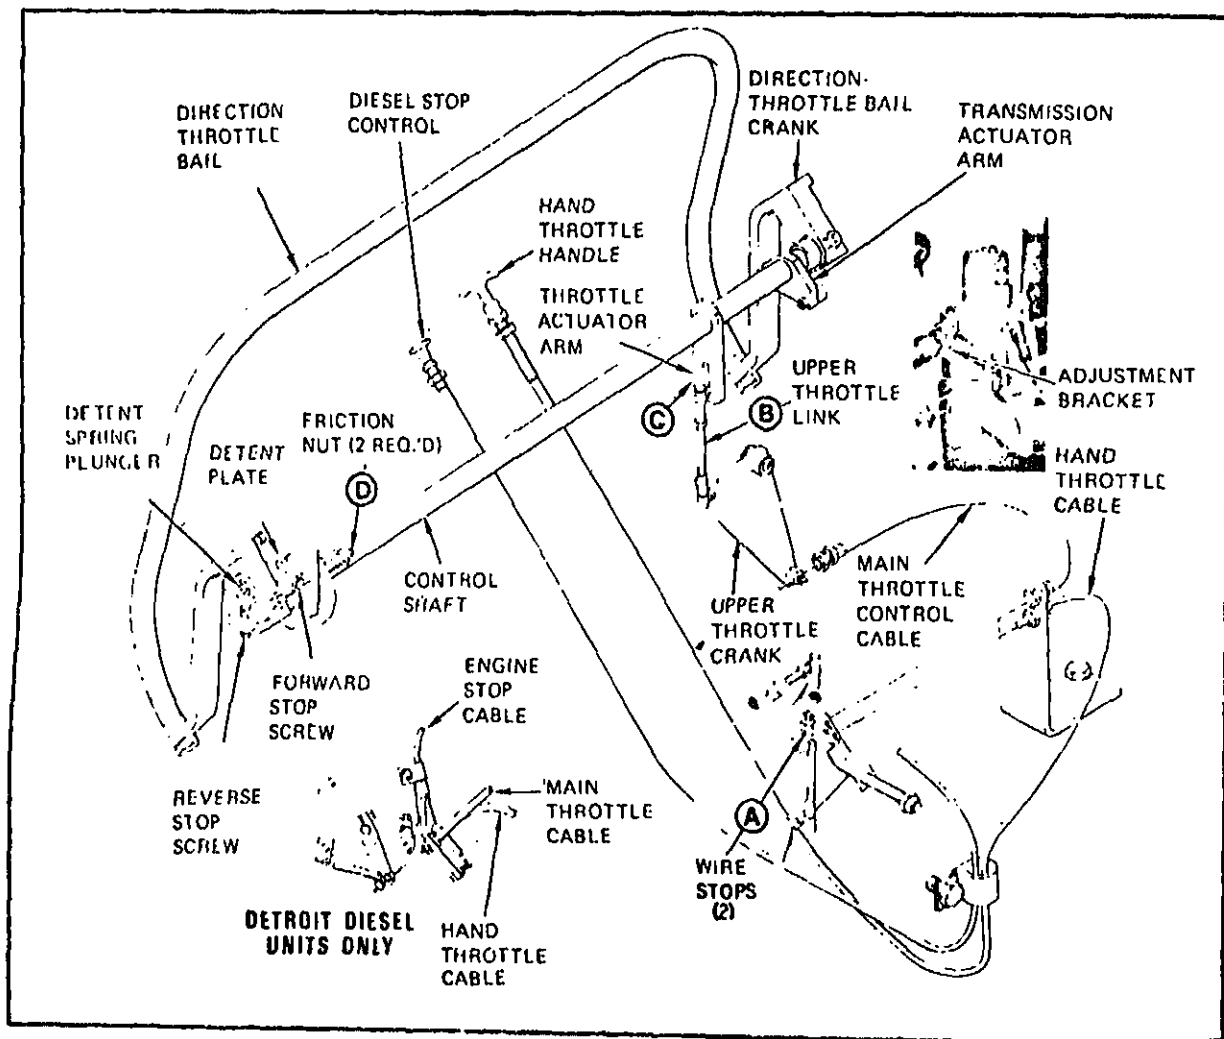

FIGURE 7-44.
5. Figure 7-44, page 7-35 is incorrect. Cross out entire figure. The revised figure is attached - please include in the manual.
7-173. THROTTLE CONTROL LINKAGE ADJUSTMENT PROCEDURE (see figure 7-44).